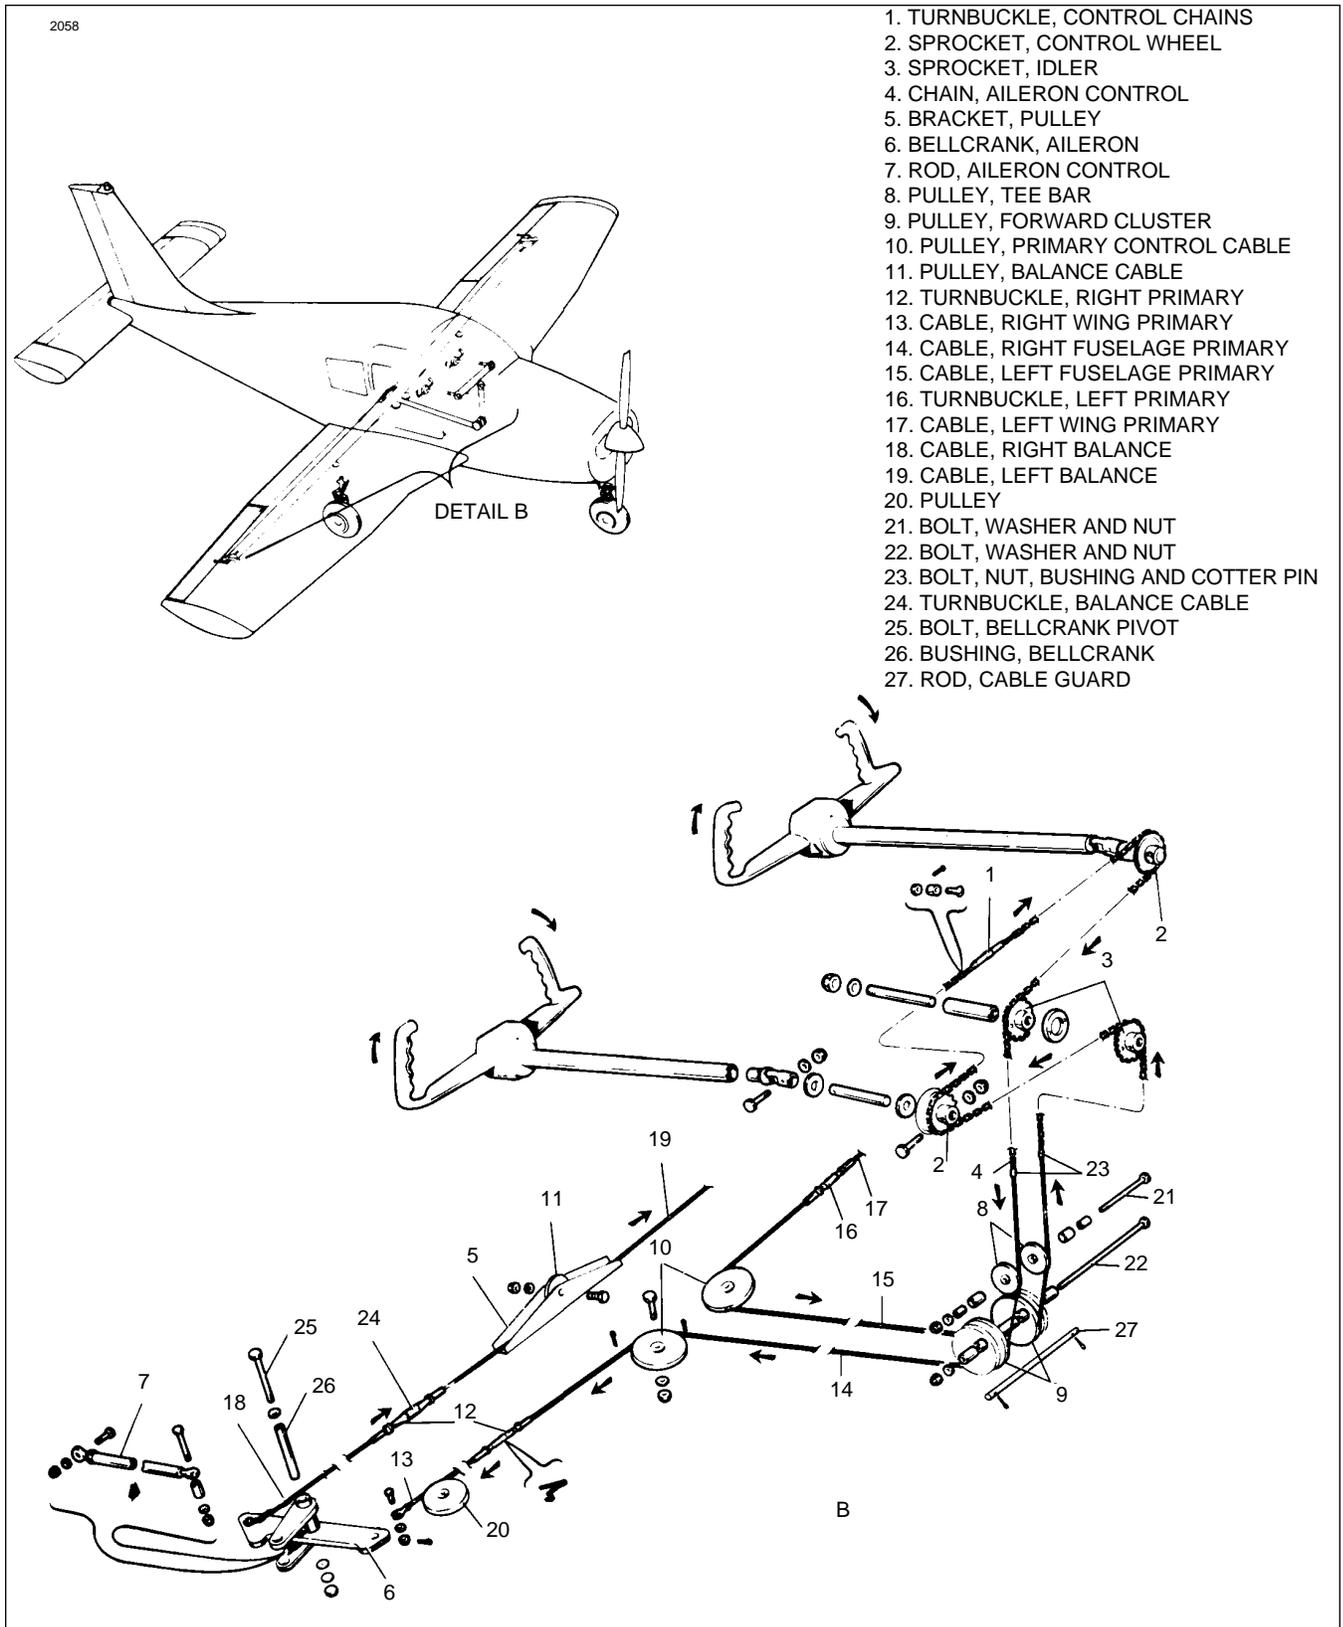

Figure 5-3. Aileron Controls
a. Install the bellcrank pivot bushing (26) with teflon tube (29) in torque tube portion of the bellcrank (6).
c. Install the bellcrank pivot bolt (25) with the head up. Install a washer and nut on the bolt, and torque nut within 20 to 25 inch-pounds. Check that the bellcrank rotates freely with little up-down play.
d. Install and adjust control rod (7) and check aileron travel per Paragraph 5-12.
f. Tighten the control cables at the balance cable turnbuckle (24) in the floor opening aft of the main spar. Check cable tension per Paragraph 5-12.
**5-12. RIGGING AND ADJUSTMENT OF AILERON CONTROLS.** (Refer to Figure 5-3)
2. Affix a bellcrank rigging tool, as shown in Figure 5-3, between the forward arm of each bellcrank and the adjacent rib. (This tool may be fabricated from dimensions given in Figure 5-3.) The slotted end of the tool fits on the arm forward of and adjacent to the primary control cable end. The other end of the tool is positioned so that the side of the tool contacts the aft side of the bellcrank stop. The bellcrank must be moved to allow a snug fit of the tool between the bellcrank arm and rib. To do so, it may be necessary to loosen a primary control cable or the balance cable. The neutral position may also be found by locating the position at which the forward and aft cable connection holes are an equal distance from the adjacent outboard wing rib.